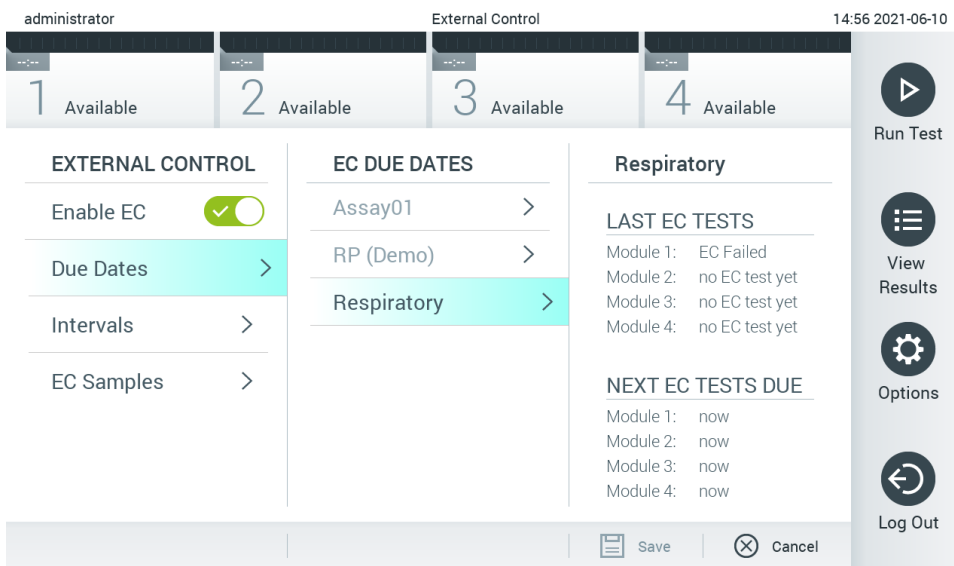

Figure 51. The External Control Due Dates screen.
3. Select **Due Dates** and then an assay from the list to see when the last External Control test was performed per assay and analytical module and when the next External Control test is due (Figure 51).